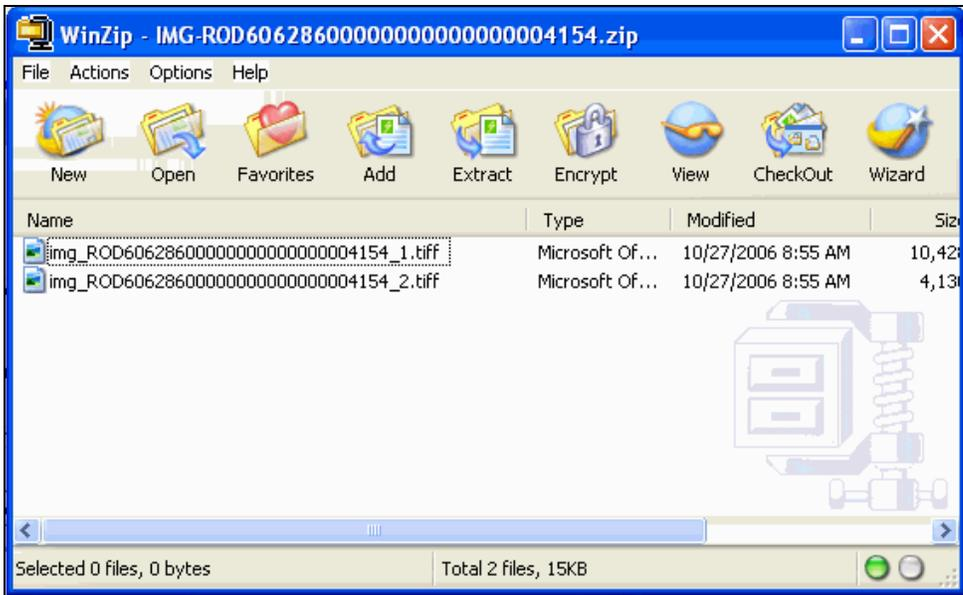

Figure 5.32.6
3. Click the **'Open'** button at the bottom of the window. A WinZip window will open (Figure 5.32.6). There are two image files listed in the example: the first zip file is the image file for the front of the check, and the second zip file is the image file for the back of the check.